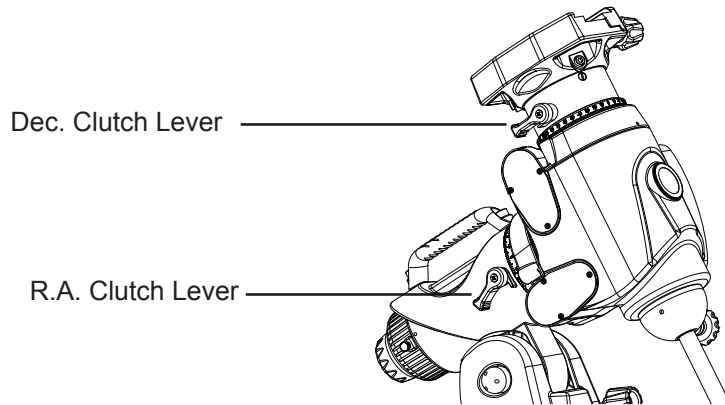

Fig. 2.1
1. Loosen the R.A. clutch lever to manually rotate the R.A. Axis. (Fig. 2.1)
2. Loosen the Dec. clutch lever to manually rotate the Dec. axis. (Fig. 2.1)